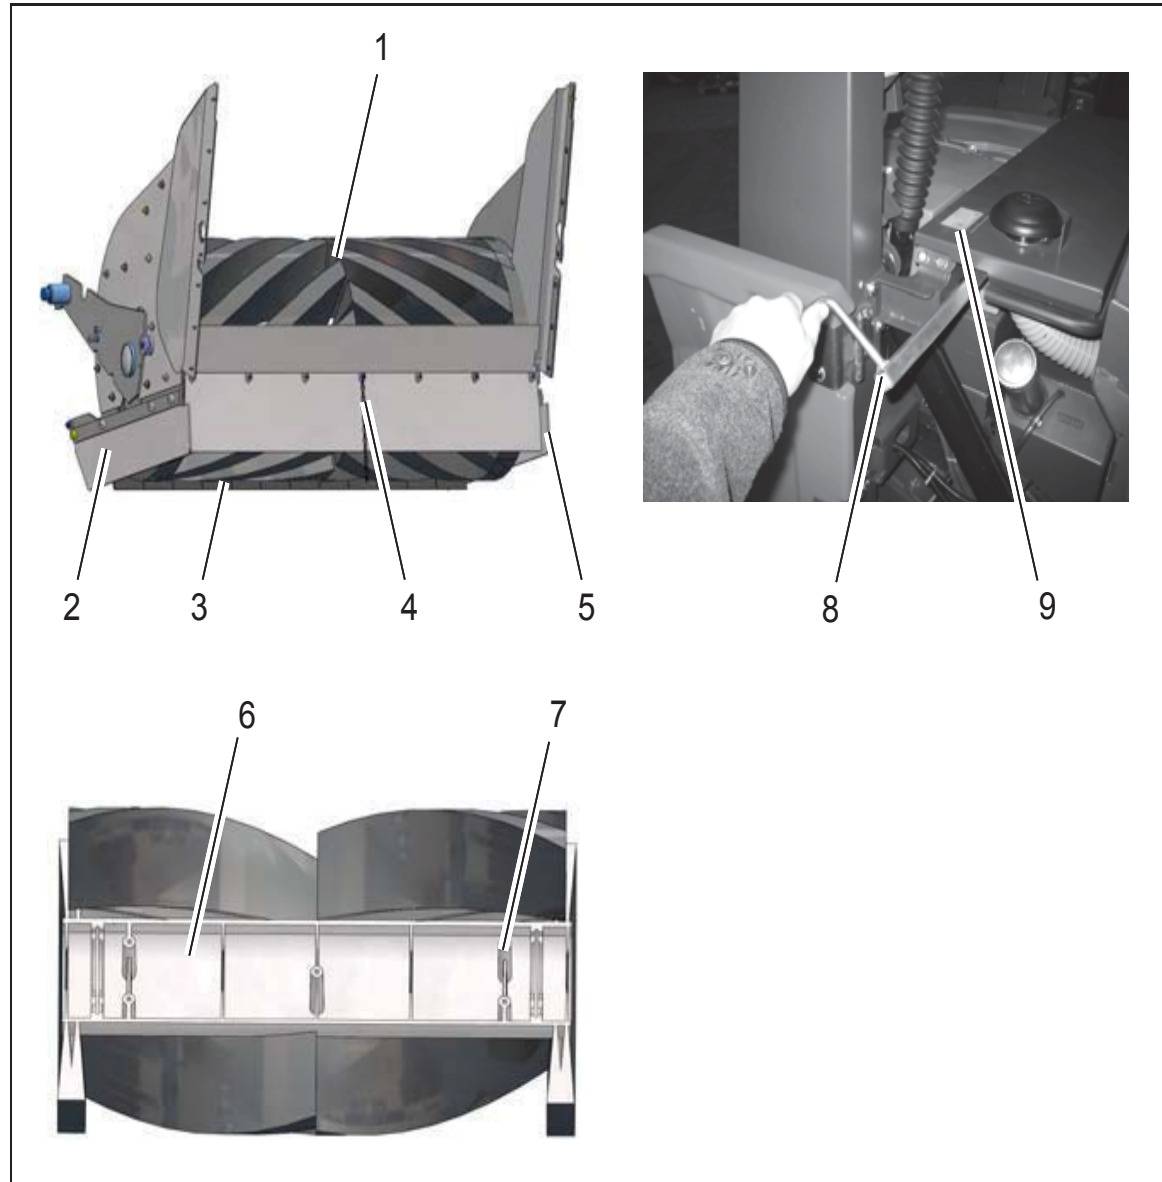

Fig.28
Check the rotary brush (Fig. 28/1) every week for signs of wear. In the event of wear or after the rotary brush has been changed, proceed as follows to complete the necessary adjustments:
6. Fit the crank (Fig. 28/8) on the square and adjust the sweeping pattern.
- Counterclockwise: larger sweeping patternThe value is indicated on the scale (Fig. 28/9).
4. Turn back the crank (Fig. 28/8) to zero.
5. Turn the rotary brush by hand until the five screw connections (Fig. 28/7) are visible.
6. Loosen the screw connections and remove the rotary brush half (Fig. 28/6).
4. The side sealing strips (Fig. 28/2) and (Fig. 28/5) can be adjusted via the slots. The sealing strip must have a clearance of approx. 1 mm to the floor.
5. The front sealing strip (Fig. 28/3) can be adjusted using an actuating rod. The sealing strip must make contact with the floor and bend slightly to the rear.
6. The rear sealing strip (Fig. 28/4) can be adjusted via the slots. The sealing strip must have a clearance of approx. 5 mm to the floor.